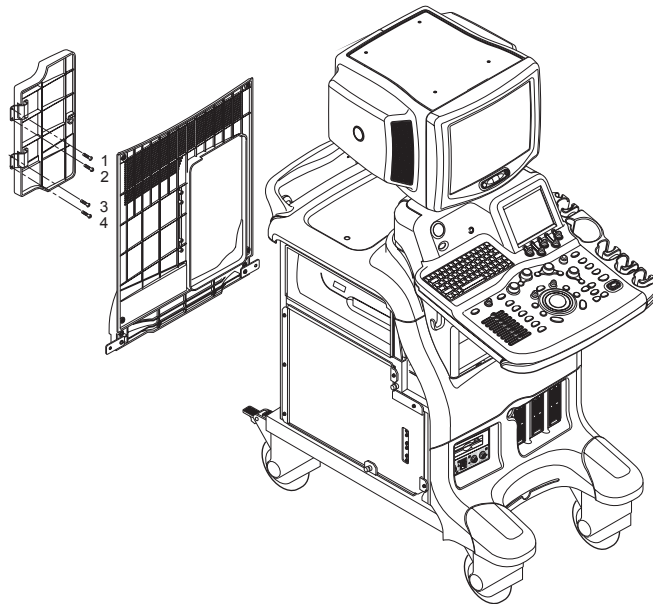

Figure 8-79 Removing the Rear Door Cover
- 4.) Unscrew four screws (1-4). Refer to section Figure 8-79 on page 34.